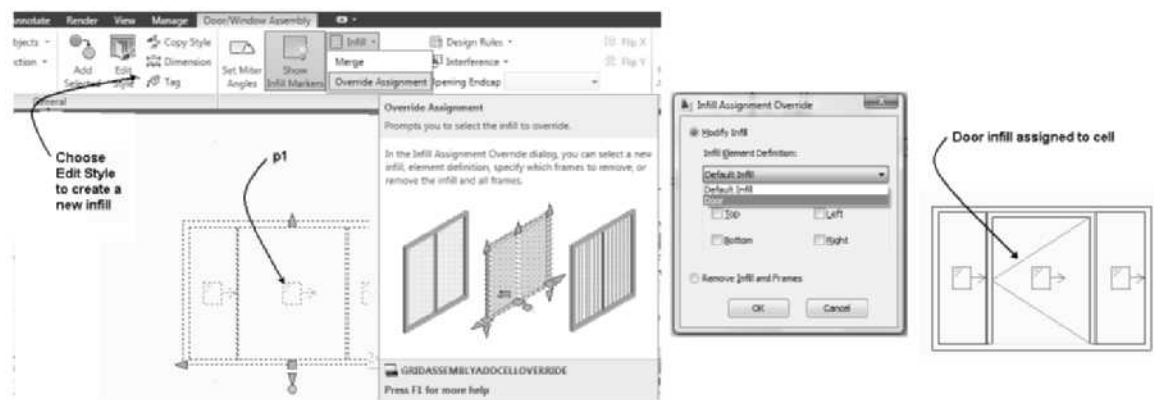

FIGURE 6.19 Overriding the Infill Assignment
2. Select the door/window assembly, and choose **Infill > Show Infill Markers** from the **Modify** panel as shown in Figure 6.19.
3. To create a new infill, select the door/window assembly, and choose **Edit Style** from the **General** panel shown in Figure 6.19.
Select infill to override: *(Select a cell marker as shown at p1 at the left in Figure 6.19.)*
Select infill to override: ENTER *(Press ENTER to end selection and select door, the new infill, in the drop-down list of the Infill Assignment Override dialog box as shown in Figure 6.19.)*
(Click OK to dismiss the Infill Assignment Override dialog box; the door infill is assigned to the center cell as shown at the right in Figure 6.19.)